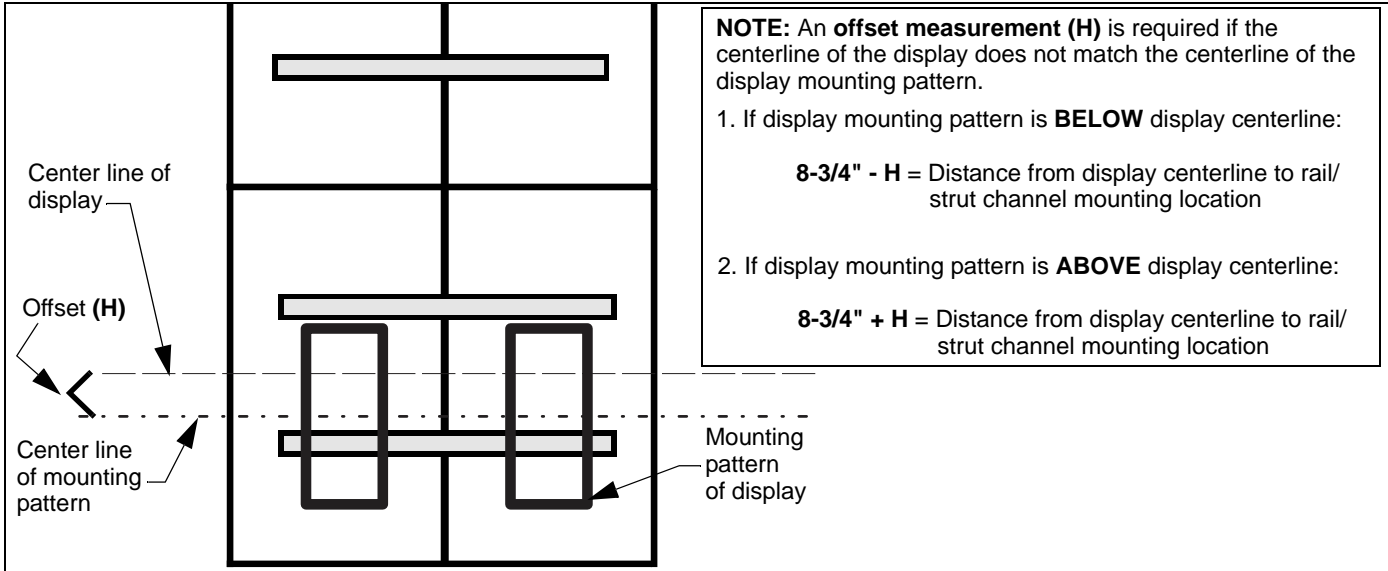

Figure 2
H - Display mounting pattern offset. Only applies to some displays. Calculation instructions (See Figure 2)
**NOTE:** If an offset measurement (**H**) is needed (See Figure 2):